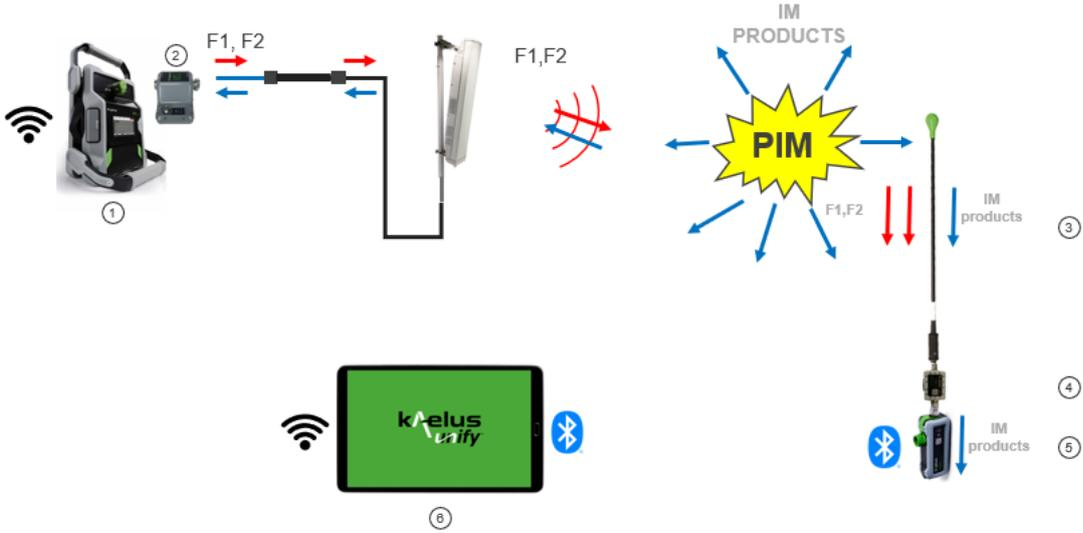

Figure 1. Diagram illustrating Kaelus PIM Finder (1-port solution) principle of operation.
- The **PIM Finder 1-port solution**, as illustrated in Figure 1, is the base model and is available for all frequencies. An iPA (1) generates two CW tones and applies them to the antenna system. Thus, a simple PIM test can be performed, and the iPA can measure the reflected PIM. However, the only information provided to the user is the reflected PIM amplitude. The location of the PIM source is still unknown. Using the Range-to-Fault module (RTF) (2), the user can determine the distance from the iPA to the PIM source. He can also differentiate if the PIM source is located internally or externally to the system. The PIM sources internal to the system are somehow easy to locate, the RF system being a "close" system. However, for the external PIM sources, the only information provided to the user is the approximate radial distance to the antenna. Using the iVA (5), BPA (4) and Probe (3), the user scans the neighbouring environment with the Low-PIM probe while monitoring the received PIM level with the iVA using the PIM Finder mode. The iPA and iVA are controlled from one tablet (6) using the Kaelus unify application.